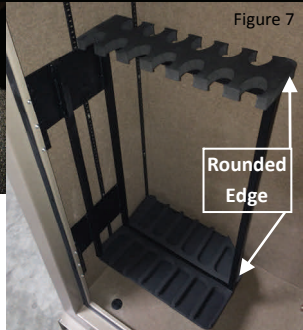

Figure 7
-Wipe off the top surface of (#10) with a dust cloth and remove the backing from the tape on the bottom of parts (#11 and #12). Place (#11 and #12) onto part (#10) firmly in the orientation seen in Figure 7.